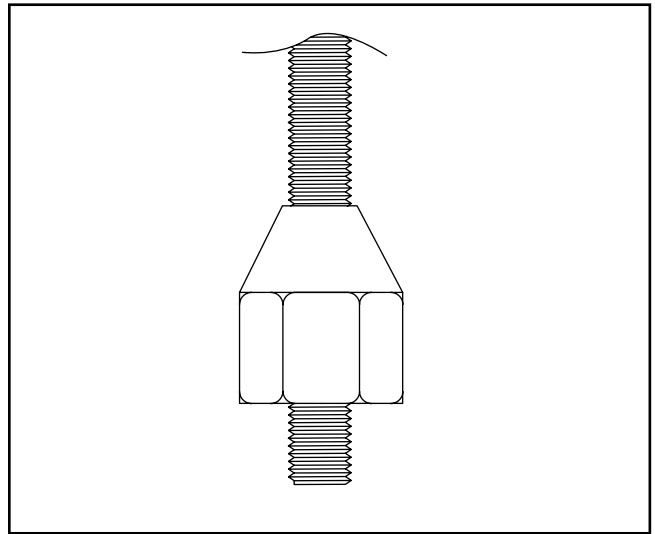

Figure 7. Drawbar nut on spindle.
4. Thread the drawbar nut, tapered side up, onto the bottom of the drawbar, as illustrated in **Figure 7**.